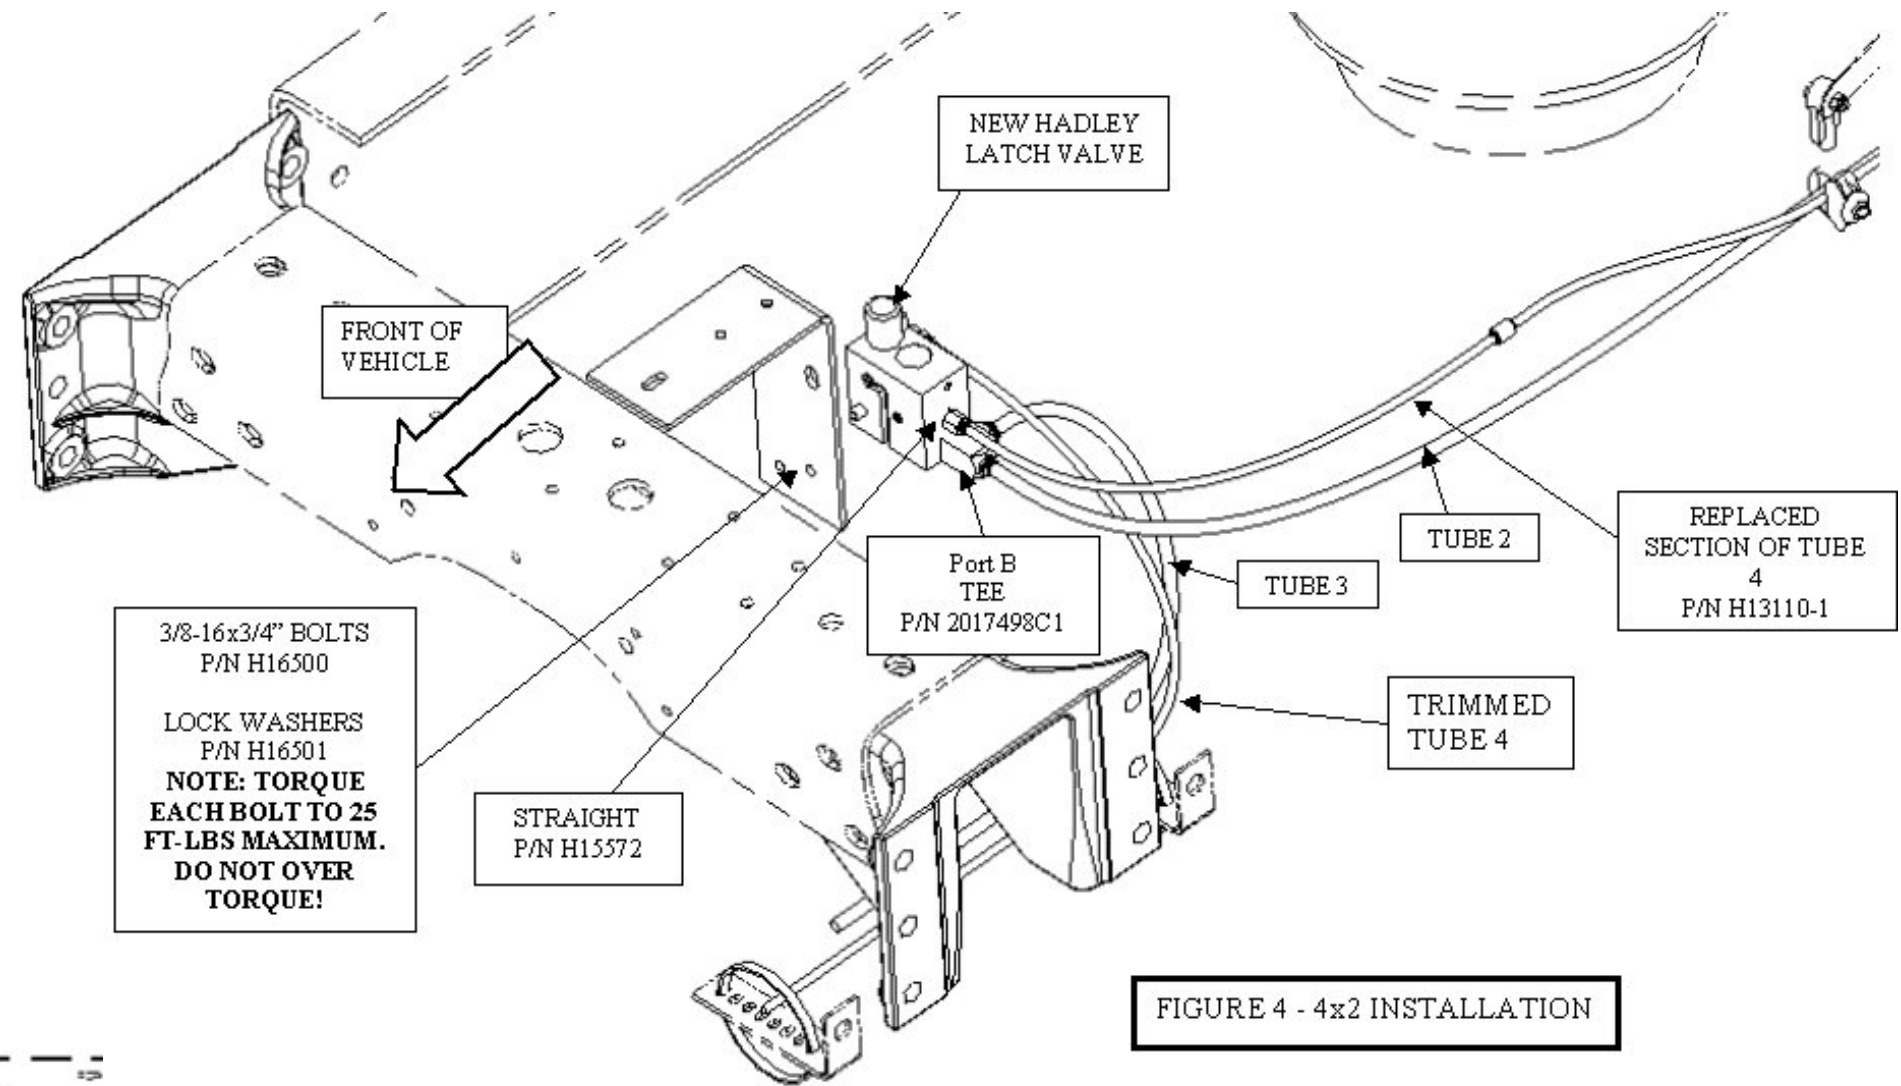

FIGURE 4 - 4x2 INSTALLATION
- (5) Install the new Hadley Solenoid Dump Valve onto the bracket using the 2 H16500 3/8-16x 3/4" Bolts and H15501 3/8" Lock washers. Torque bolts to 25 ft lbs maximum. DO NOT OVER TORQUE. (see Figure 4)
- (8) Cut tube 4 approximately 12" to the rear of the crossmember where the Hadley Solenoid Dump Valve is mounted. Plug the cut end of the forward portion of the line into port B (see Figure 4).
- (9) Connect 1 end of H13110-1 1/4" DOT Tubing into port C of the new Hadley Solenoid Dump Valve (see Figure 4).